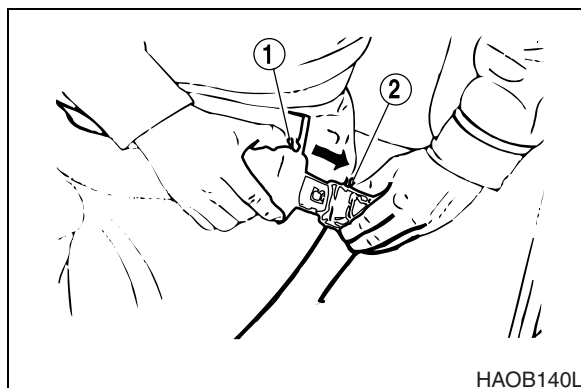

Figure 85
Insert belt end (1, Figure 85) into the buckle (2). Pull the belt to check that belt end is locked into buckle.